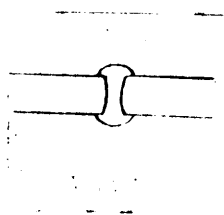

Figure 1.
3. Place rivet through holes, turn stock over and rest head of rivet against solid piece of metal. Press pieces close together and strike hard blows with hammer directly on top of the rivet. After the pieces are held together solidly, then hammer at an angle in order that a good solid head is formed. Figure 1 shows rounded head formed by delivering final blows at angle.